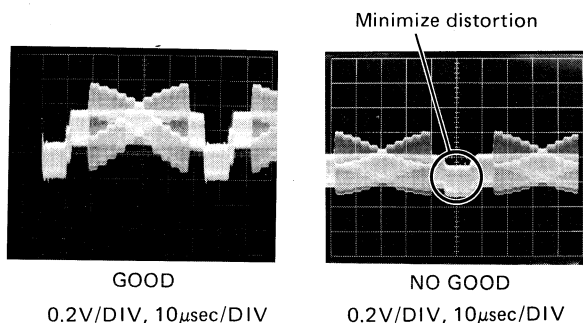

Fig. 4-2-33
- Turn back V.EDGE BIAS VR16 slowly and stop it at the point where the distortion of the H.BL signal becomes minimum. (Fig. 4-2-33)